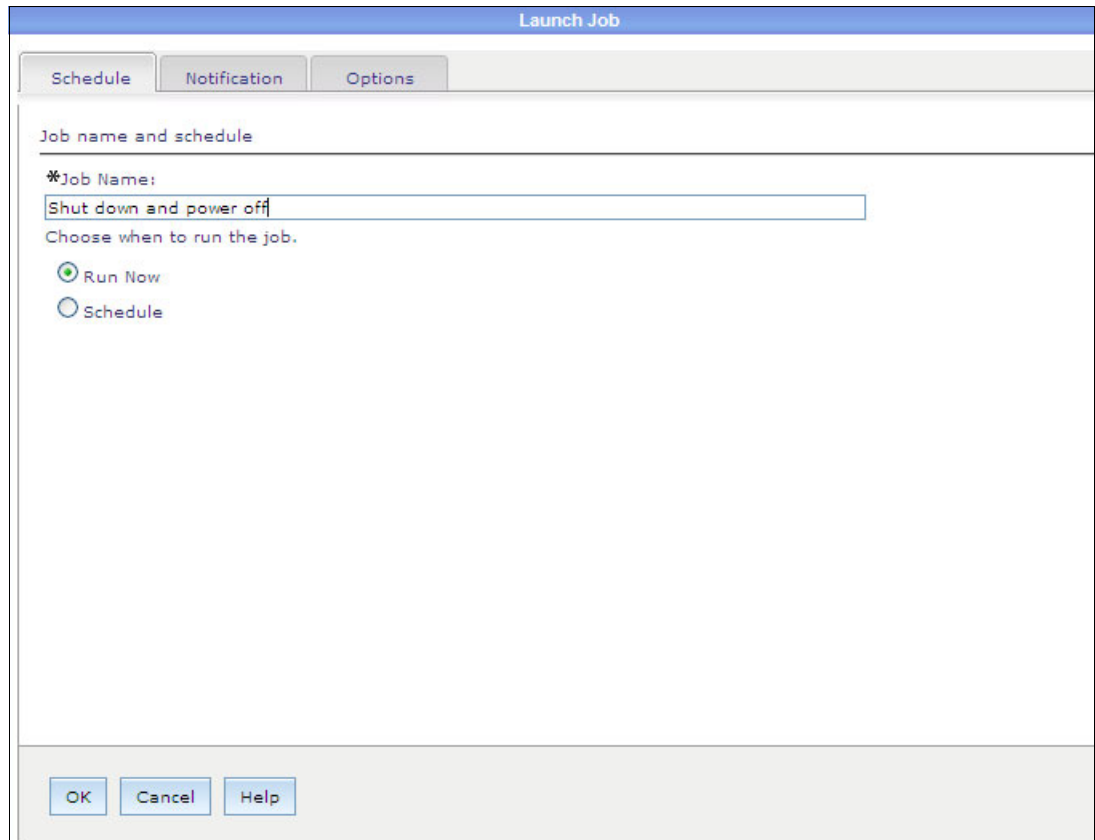

Figure 11-40 Shut down and power off Launch Job window
2. Click **OK** in the Launch Job window to run the job immediately as shown in Figure 11-40.